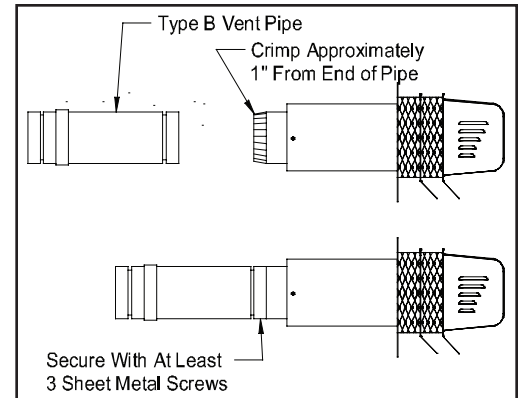

Figure 4
1. Using a hand crimper or a like device, crimp the inner pipe of the SWG power venter approximately 1" long. (See Figure 4)
3. Secure the vent pipe to the SWG power venter inner pipe with at least three (3) #8 sheet metal screws. Pre-drilling the holes through both pipes will allow easier fastening.